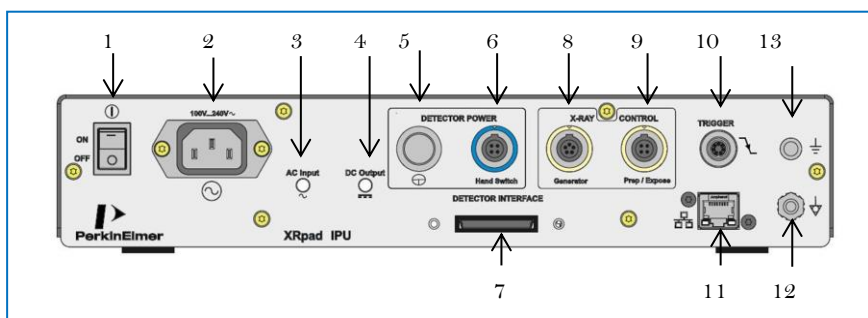

Figure 6 XRpad™ IPU Overview
The XRpad™ IPU is a Power Supply Unit with integrated additionally interfaces. The tethered power and communication cable is connected to the XRpad™ 4336 detector. The communication data are split inside the XRpad™ IPU into Gigabit Ethernet Interface, Detector Trigger Interface, Hand Switch and Generator Interface and Detector Push Button Interface. The Gigabit Ethernet Interface of the XRpad™ IPU is connected via Cat 5e/6 with the imaging Workstation. The maximum cable length is 30m. The AC cable has to be connected to a properly grounded receptacle. The AC cable is removable and will be plugged to an IEC connector. The XRpad™ IPU needs to be connected with a ground by the functional ground connector (Figure 6 (13)) or with the potential of the hospital by the potential equalization connector (Figure 6 (12)) To isolate the equipment electrically from supply mains on all poles simultaneously, the supply mains switch (Figure 6 (1)) must be used.
- **XRpad™ IPU** push button (Figure 6 (5)) (wired mode)